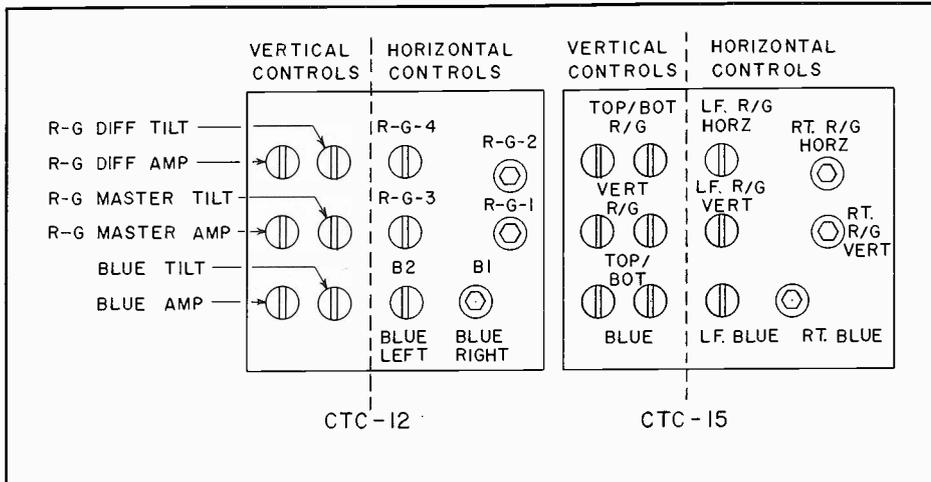

Figure 6—Dynamic convergence controls for CTC-12 and CTC-15 chassis. The CTC-15 controls have been rearranged for easier set-up.
Step 6—Dynamic Convergence. With the purity and static convergence set, it is time to adjust the dynamic convergence. The dynamic convergence boards used on current color receivers are all quite similar in appearance and operation. Figure 6 shows the control arrangement on the dynamic convergence board of